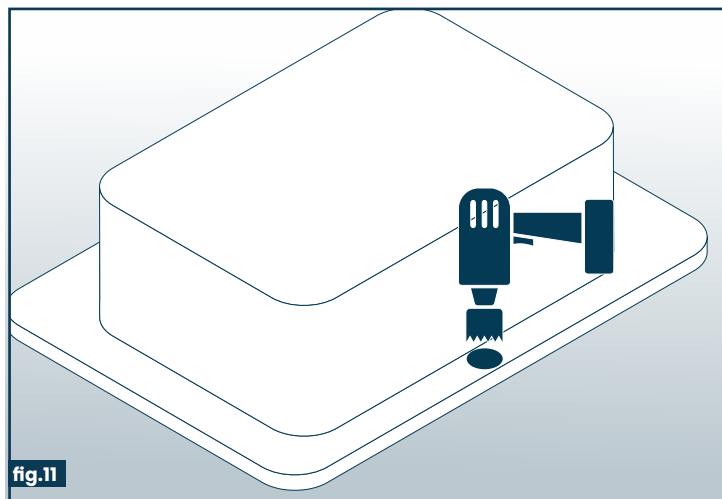

fig.11
9. If drilling extra holes, carefully place the sink upside down on a suitable and stable surface. Use a 1-3/8-inch diamond hole saw to drill in the pre-scored area(s) where extra holes are needed (Fig. 11).